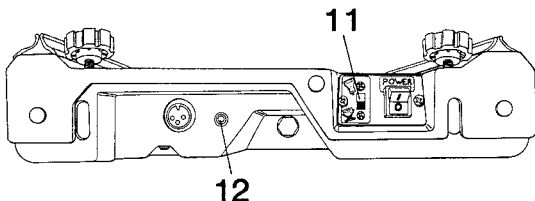

Fig.5
This function allows the KINETEC 4071 to stop at the extension limit and indicates to the stimulator (not included) via the connection (12) (Fig.5 page 5) that it can operate.